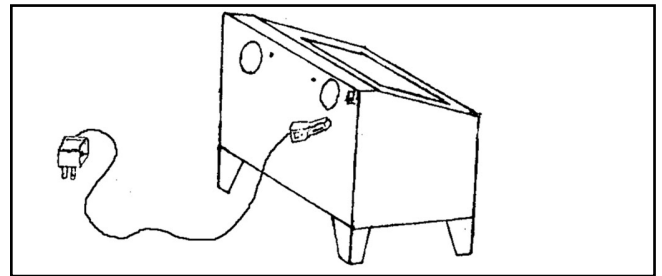

Figure 4. Light assembly.
4. Plug in the AC/DC adapter (**Figure 4**).